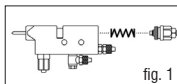

fig. 1
- 3) Loosen the adjustment lock with a key 13. Be careful because the spring is pushed (see Fig. 1)